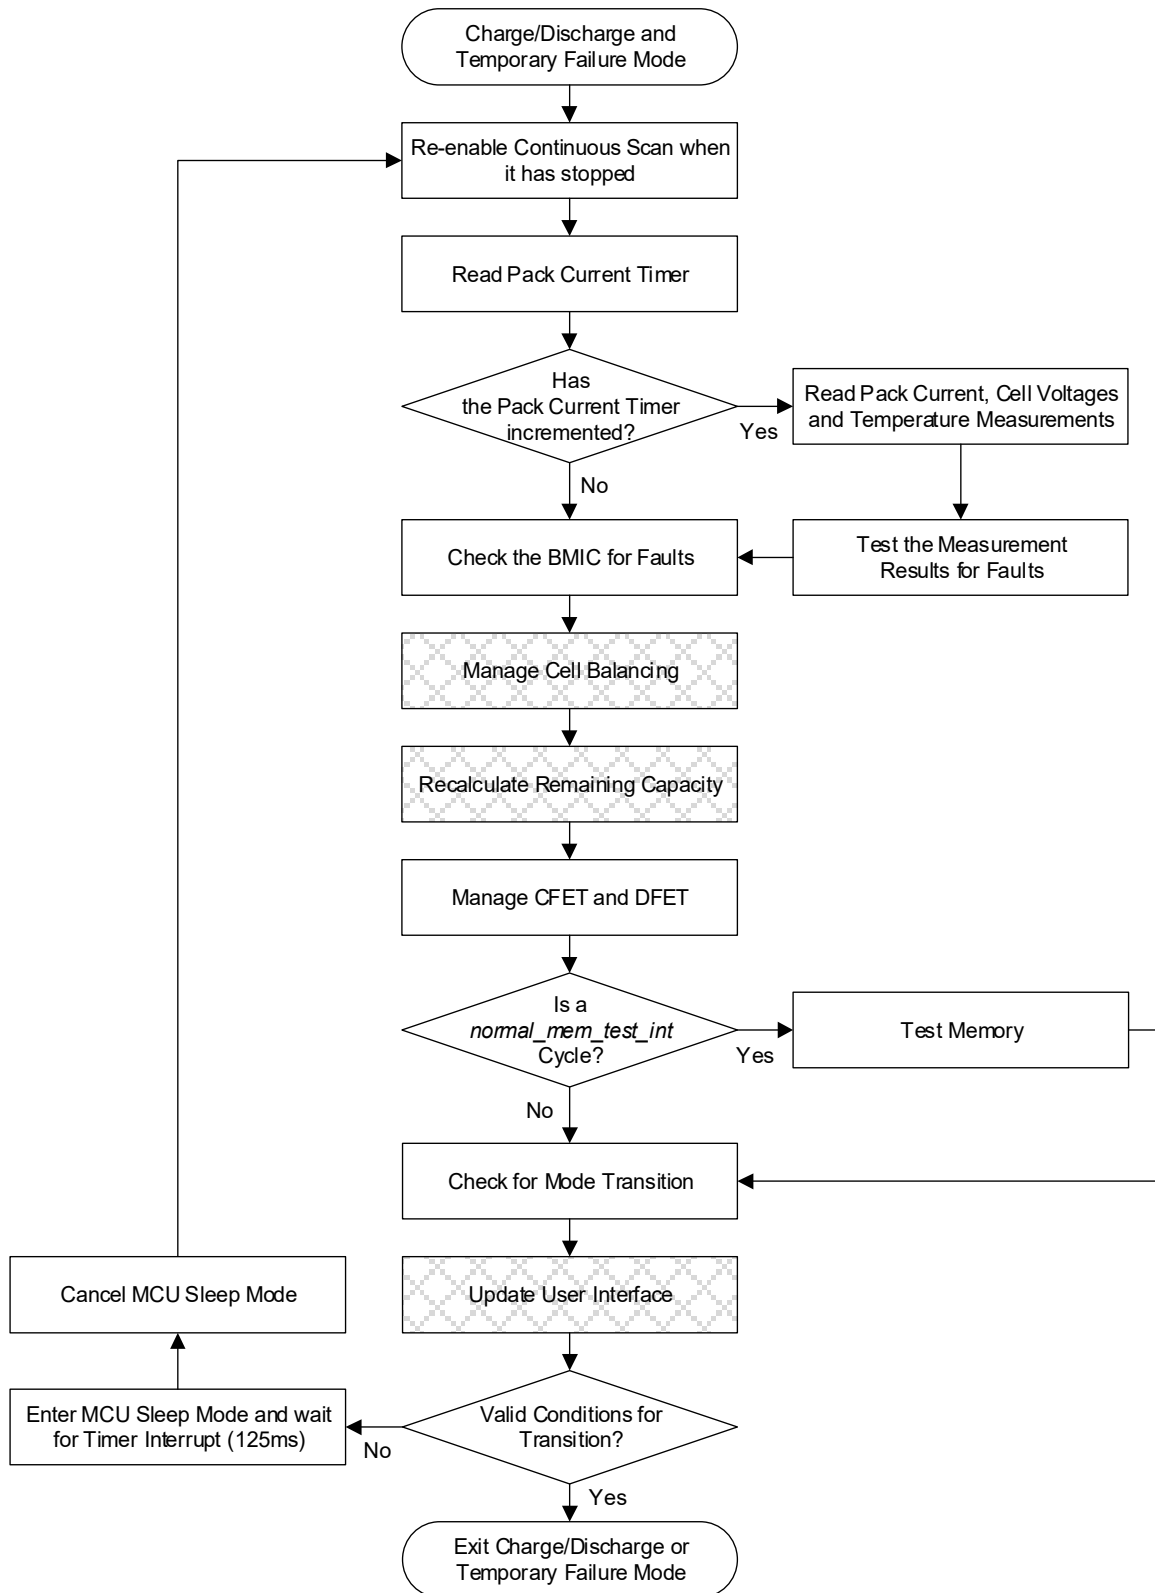

Figure 7. Charge/Discharge and Temporary Failure Mode Flowchart
- Figure 7 shows a flowchart depicting the main loop in this mode.
The system enters Temporary Failure mode from the Charge/Discharge mode when any temporary fault appears (Table 14). Depending on the particular fault, one of the FETs could remain ON (such as the CFET to allow pack charging when there is an undervoltage fault), or both FETs could be OFF (such as with charge and discharge over-temperature fault where the pack must cool down before any further use). The system runs through the same loop as in the Charge/Discharge modes (see Figure 7), and the MCU is in MCU Normal mode or MCU Sleep mode to save power until the next periodic timer interrupt comes (every 125ms). Table 5 shows the conditions to exit the Temporary Failure mode.